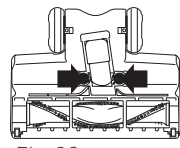
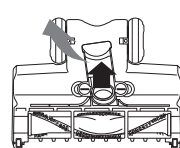

Fig. 20
Fig. 21
- 2 Squeeze the tabs on the bottom of the nozzle together and pull up to expose the airway. **(Fig. 20, Fig. 21)**